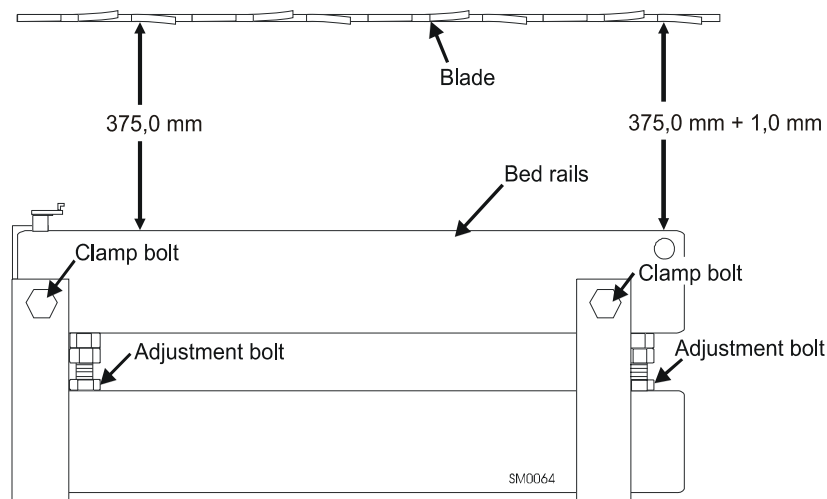

**FIG. 5-21**
**See Figure 5-21.** To adjust the saw head tilt, use the bolts located at the bottom of the saw head mast. Loosen the three sets of four retaining plate bolts. To raise the outside of the saw head, back the stop bolts out, then tighten the adjustment bolts. To lower the outside of the saw head, loosen the adjustment bolts and tighten the stop bolts. Recheck the saw head tilt and readjust the bolts as necessary. Retighten the retaining plate bolts.